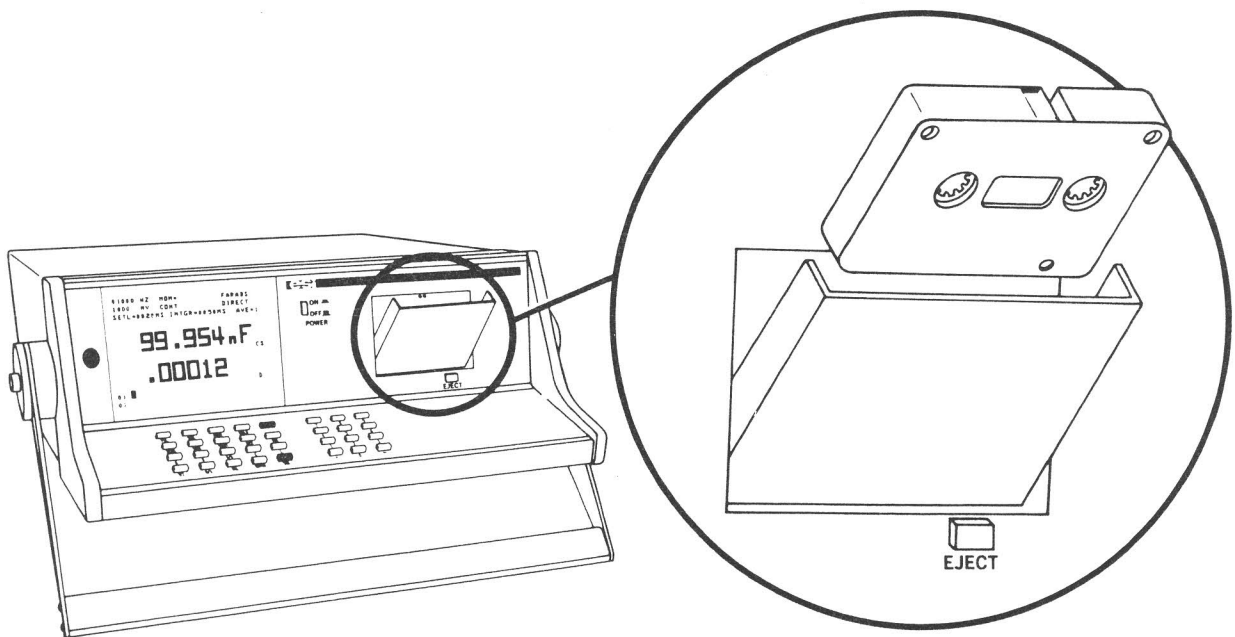

Figure 2-18. Cassette Tape Installation
The mini-cassette tape is installed in the 2160's cassette tape loader as shown in Figure 2-18. To install:
- STEP 2. Install tape by sliding cassette downwards as shown in Figure 2-18 (side A or B refers to whichever side is facing front).